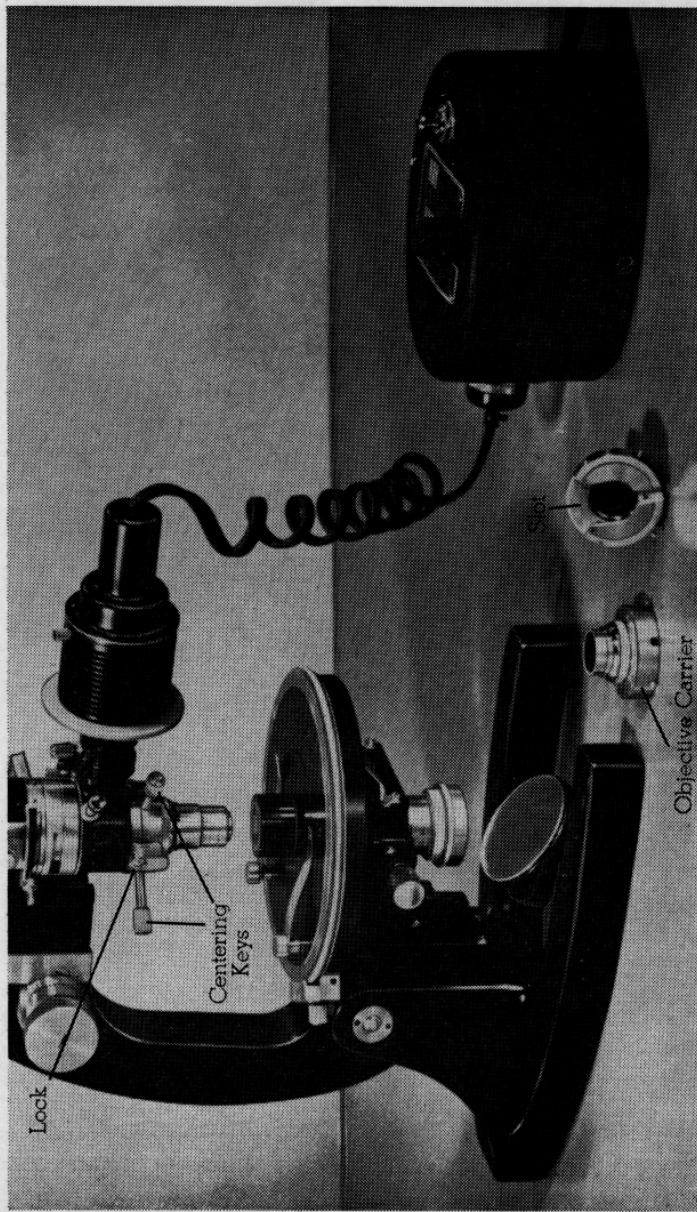

Figure 5
2. No. 31-34-43 DeLuxe Model with quick change centering nosepiece: The objective screws directly into the slotted objective carrier of the centering nosepiece (Figure 5). To attach the objective to the illuminator, turn the lock (Figure 5) to the horizontal position and slip the open end of the slot in the objective carrier over the pin in the illuminator nosepiece. Slide the objective on all the way and turn the lock back into the vertical position. Objectives are individually centered by turning the two square headed screws projecting from the objective carrier. Two centering keys are provided to fit the screws.